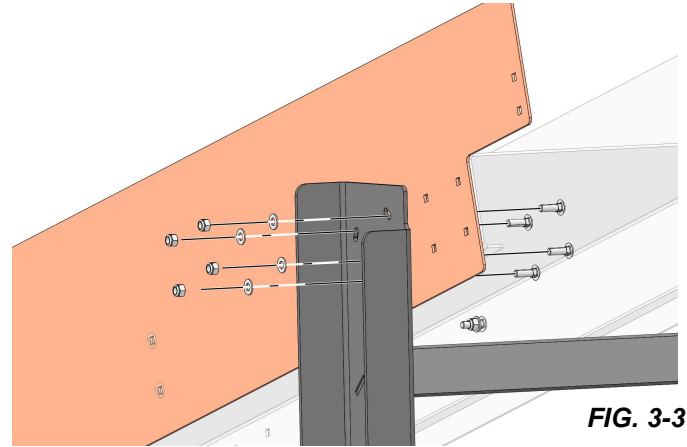

FIG. 3-3
1. Install the assembled incline section to the frame as shown in FIG. 3-3.